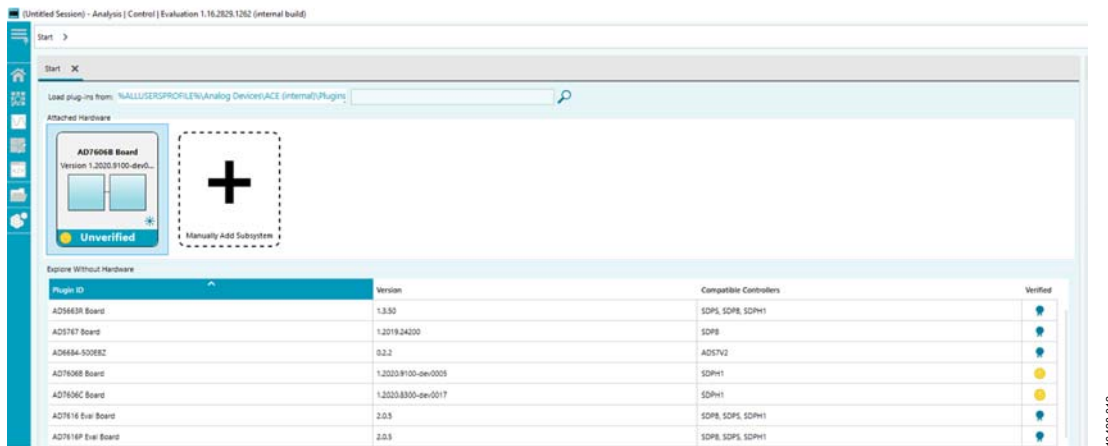

Figure 10. ACE Software Main Window
1. From the **Start** menu, select **All Programs > Analog Devices > ACE > ACE.exe**, which brings up the window shown in Figure 10.
3. Double-click the **AD7606B Eval Board** icon to view the window shown in Figure 10.